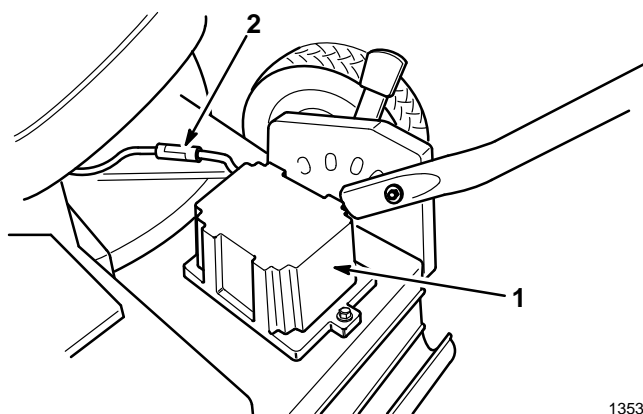

Figure 6
- Connect leads from starter motor to battery (Fig. 6).